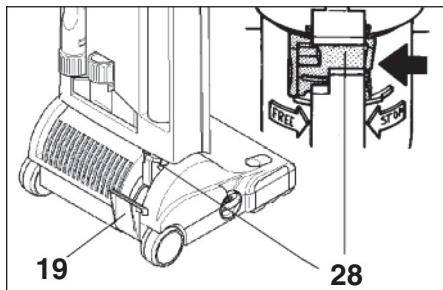

Figure 3
Operating Positions - Figure 3
To vacuum walls, under beds, or higher-reach areas, etc., the SEBO essential G can be fitted with an additional straight tube (45) and the wall and floor brush (41). The machine will then perform as a canister vacuum (**as shown in figure 3**).